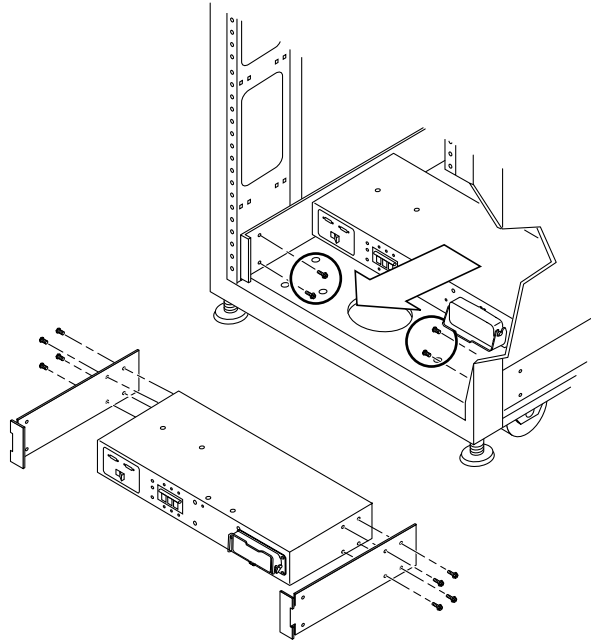

FIGURE 6-10 Removing the Power Sequencer
2. **Disconnect the key switch adapter cable from the mating power supply connector at the back of the power sequencer (FIGURE 6-10).**
3. **Slide the power sequencer into the storage system (FIGURE 6-10).**